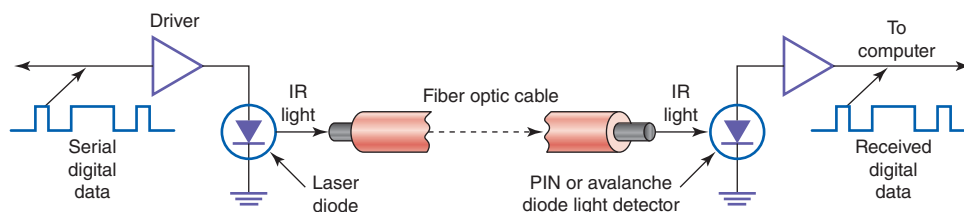

Figure S25-2 How a fiber-optic cable works.
Most fiber carries binary data in the form of pulses. The stream of binary 1s and 0s are applied to a driver circuit that operates a light-emitting diode (LED) or laser. See Fig. S25-2. The LED or laser produces infrared (IR) light. Infrared is less distorted and attenuated by the cable than other frequencies of light. Typical IR wavelengths are in the 800- to 1600-nm range.